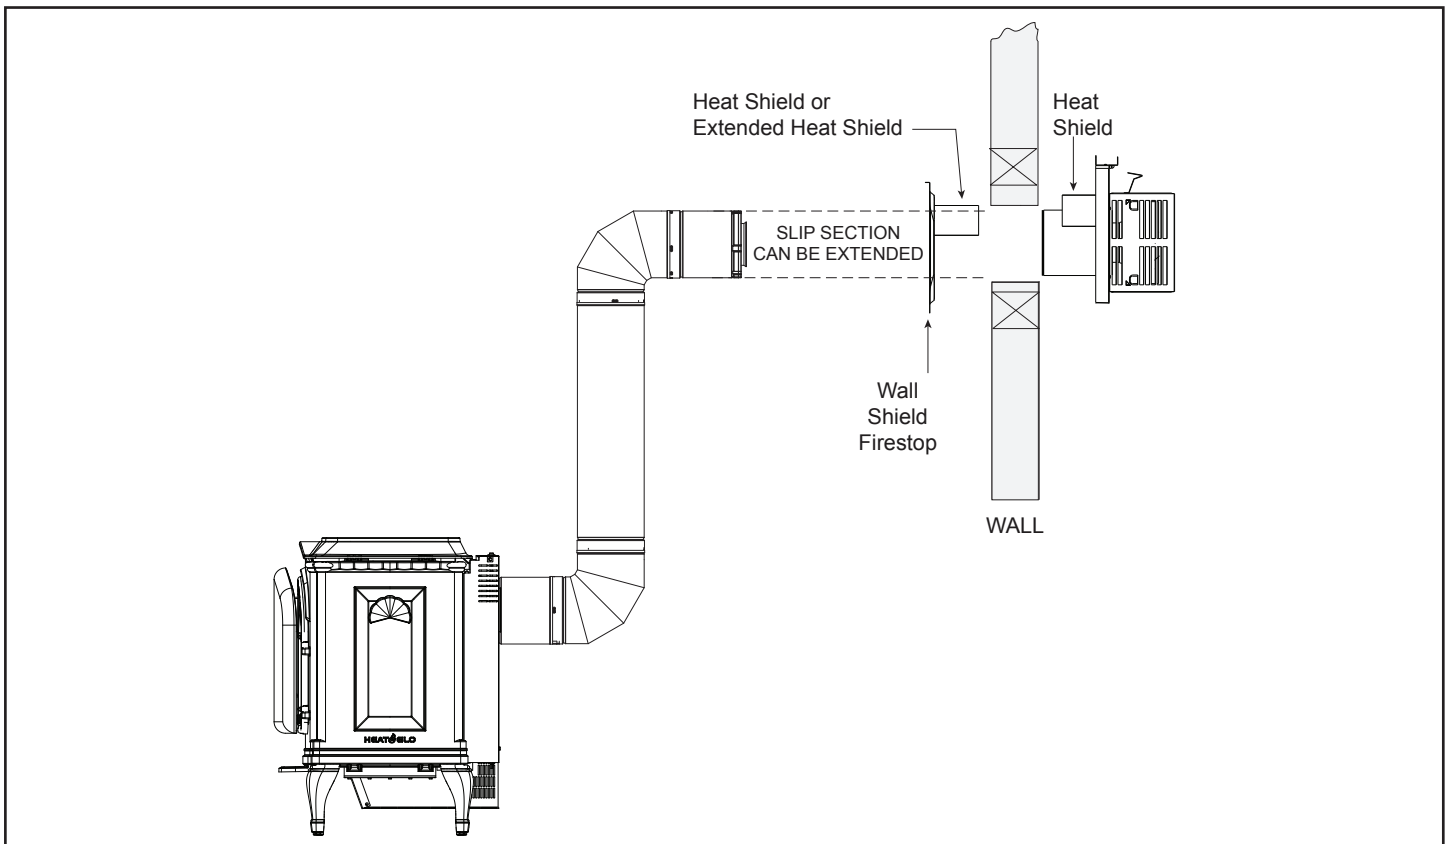

Figure 7.17 - Venting through the wall
- **DO NOT** remove the heat shields attached to the wall shield firestop and the horizontal termination cap (shown in Figure 7.17).
There are two sections of the heat shield. One section is factory-attached to the wall shield firestop. The other section is factory-attached to the cap. See Figure 7.17.